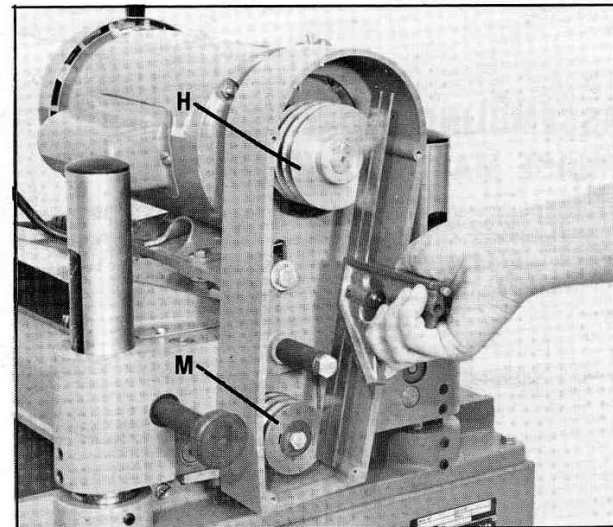

Fig. 15
5. Using a straight edge, align motor pulley (H) to cutterhead pulley (M), as shown in Fig. 15, by sliding motor on motor plate. Then tighten motor mounting hardware.